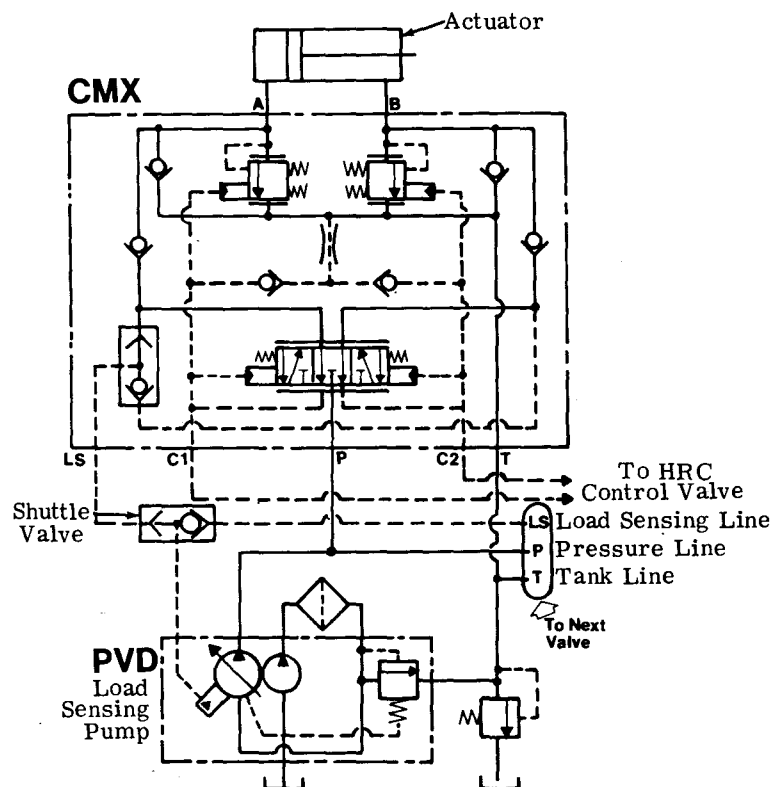

Figure 5. Power Match™ System.
Multiple CMX valves can be supplied by connecting their inlets in parallel to pump discharge. Return lines can also be connected through shuttle valves. See Figure 5. This allows the highest feedback signal to be directed to the pump load sensing control.
CMX valve sizes and flow ratings are shown in Table 3. A load sensing system, comprised of the CMX valve in conjunction with a PVD pump and a HRC hydraulic controller has been named POWER MATCH™. In a POWER MATCH™ system, pump outlet power matches that required by the load. The CMX valve was designed to operate with some back pressure present at the tank port. The basic POWER MATCH™ circuit is shown in Figure 5.
1. The POWER MATCH™ system in Figure 5 is capable of maintaining precise control for both driven and overrunning loads.
Pressure lines are connected to the PVD pump and hydraulic controller. This CMX/PVD/HRC combination is called POWER MATCH™ system and is shown in Figure 5.